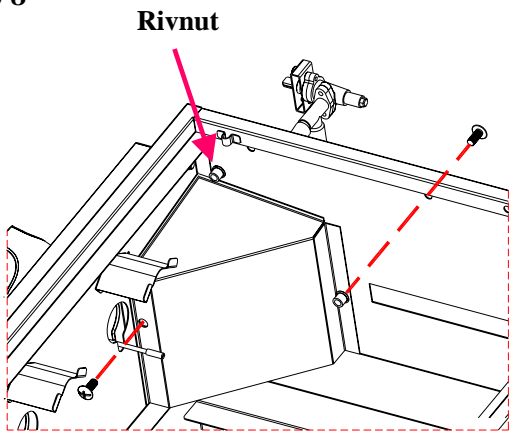

Fig.8
Procedure: Refer to Fig. 8 and set the HVR Cover in the front corner of the Gas Grill Cabinet, so that it covers the actual HVR where it enters and exits the Cabinet. Fasten in place with (2) M6x15 bolts.